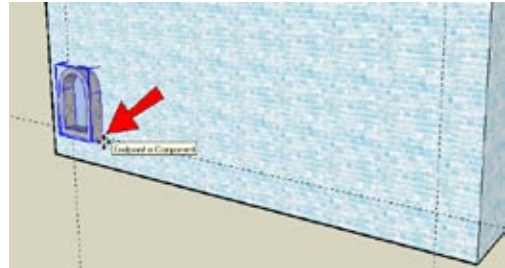

Figure 1-25
- To place a copy on the other side, click the first move point on the lower-right back corner of the window (Figure 1-25).